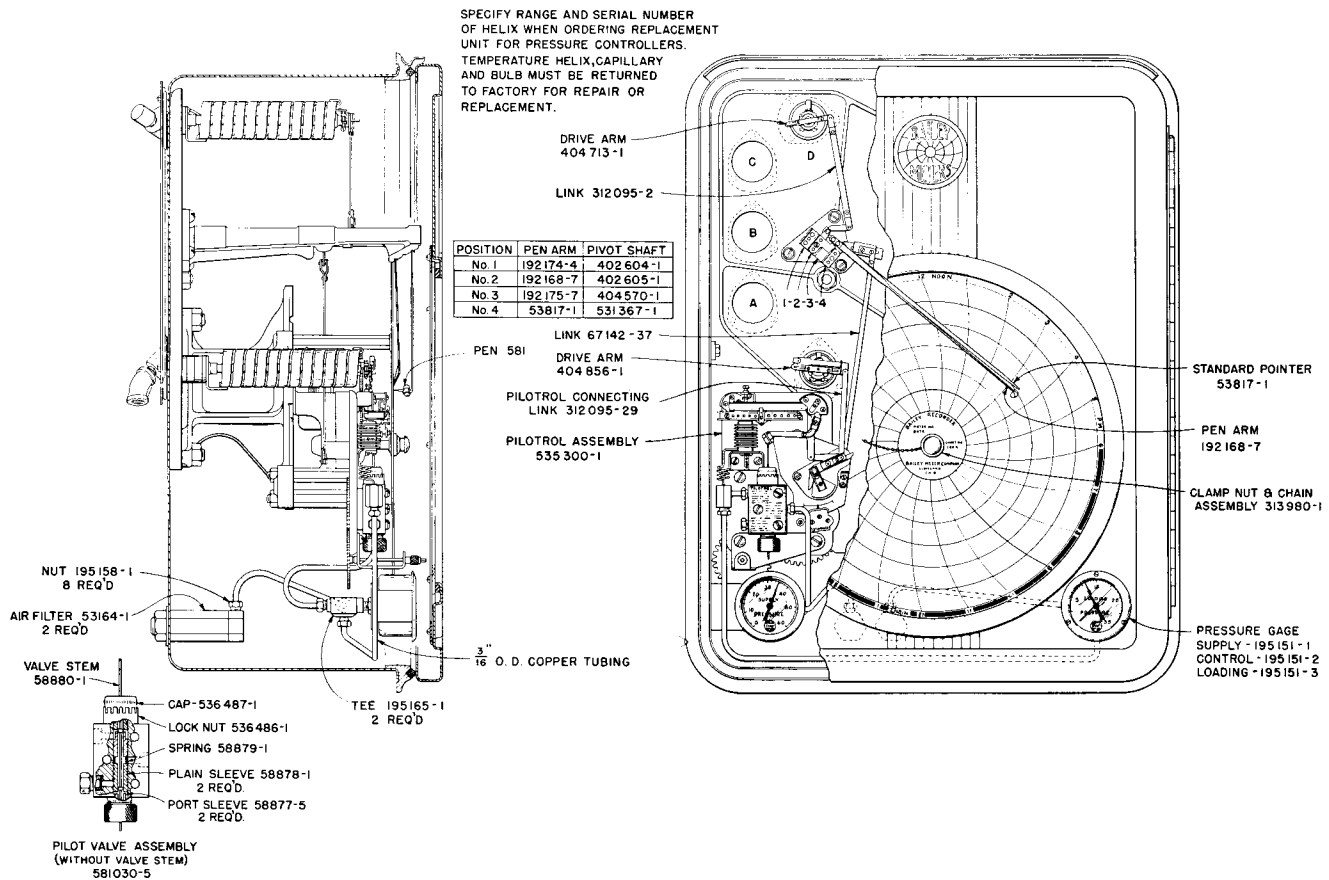

FIGURE 3
right to increase the regulating range, or to the left to decrease the regulating range. It is recommended that the adjustable pivot be located over the eighth hole from the left in the beam when starting the control operation. Adjust the control by decreasing the regulating range to a point just short of that where unstable control operation is obtained. Reference should be made to Figure 3, Page 6 of the Pilotrol Instructions AC 100 for the regulating range characteristic curves.
5. Reference should be made to Figure 3 for replacement parts.